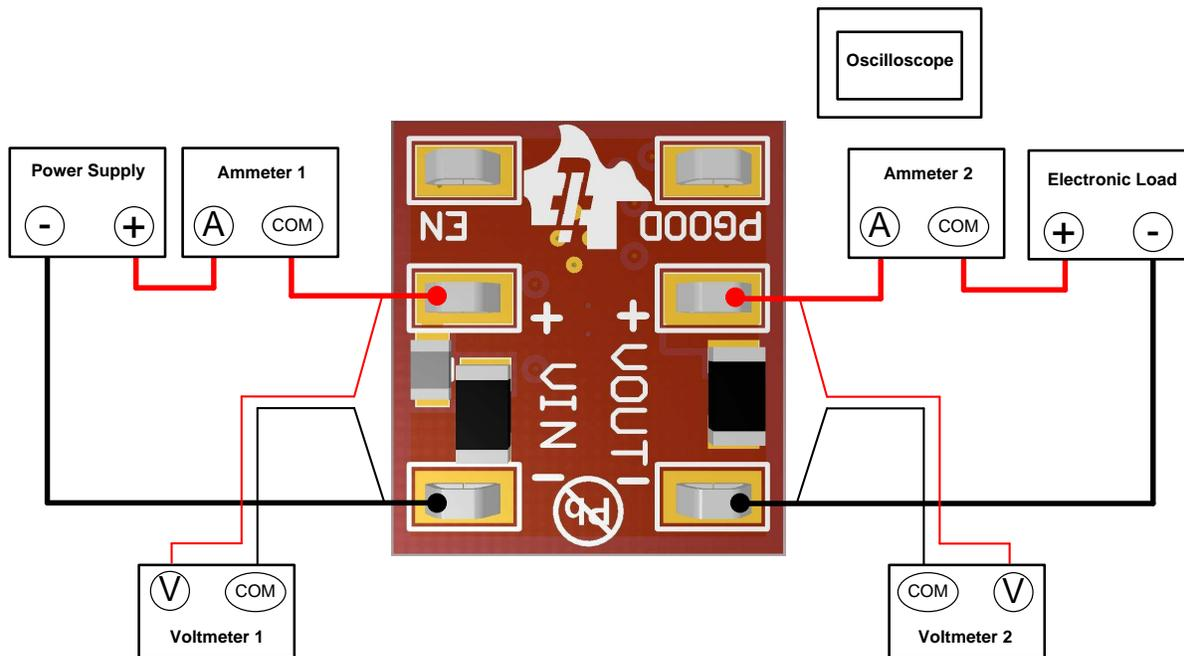

Figure 3. EVM Test Setup
Referencing the EVM connections described in Table 2, the recommended test setup to evaluate the LM5165EVM-HD-C50X is shown in Figure 3. Working at an ESD workstation, make sure that any wrist straps, boot straps or mats are connected referencing the user to earth ground before power is applied to the EVM.
- Prior to connecting the DC input source, it is advisable to limit the source current to 200 mA maximum. Ensure the input source is initially set to 0 V and connected to the VIN and GND connection points as shown in Figure 3. An additional high-ESR, low leakage, input bulk capacitor is recommended if long input lines are used.